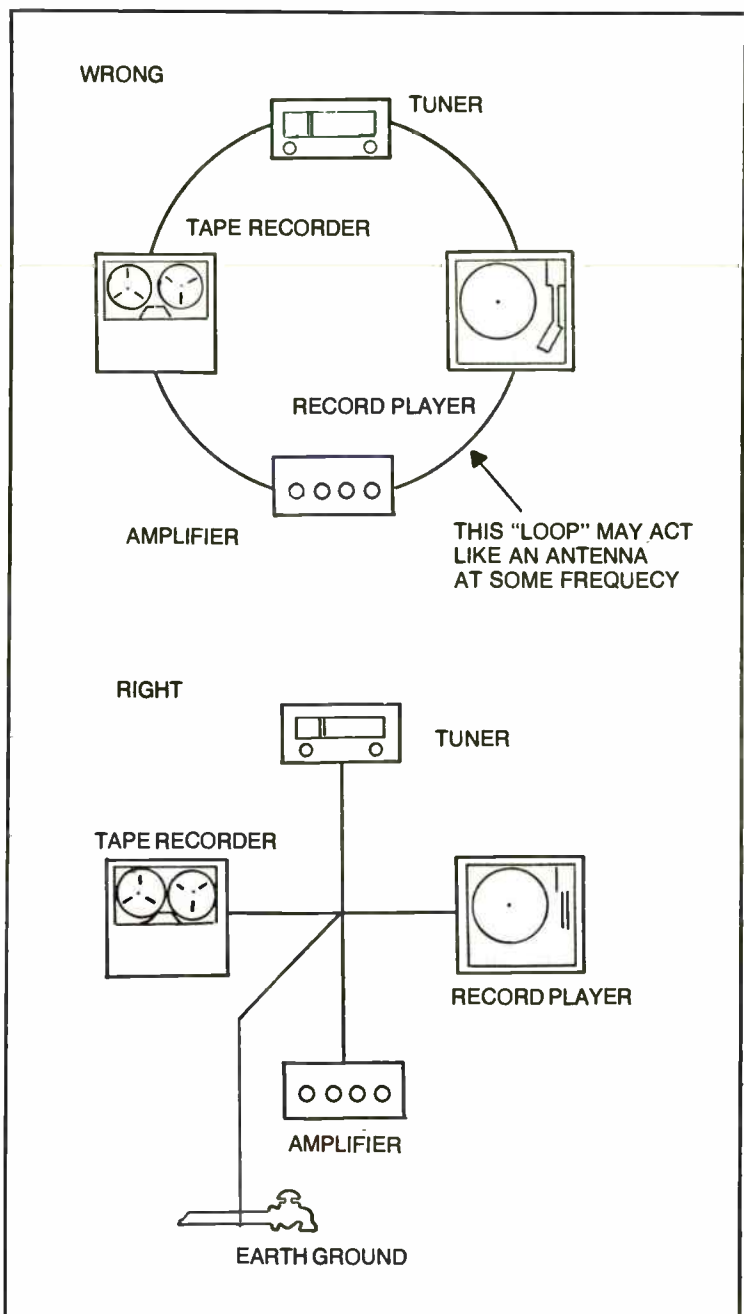

Fig. 20-14. The right and the wrong way to ground components.
**Grounding.** All grounding should be to a good earth ground such as a metallic cold water pipe or 8' ground rod. Ground leads should be as short as possible. Remember, a DC ground may appear as an open circuit to **rf** energy. Ground leads should be of as large a diameter wire as practicable. Finally, grounding of the chassis, shields of speaker leads, and other external connections should be made to a common point to avoid ground loops. (Ground loops are circuits that form a DC ground, but contain **rf** circulating currents.) Figure 20-14 shows the correct and incorrect methods of grounding components.